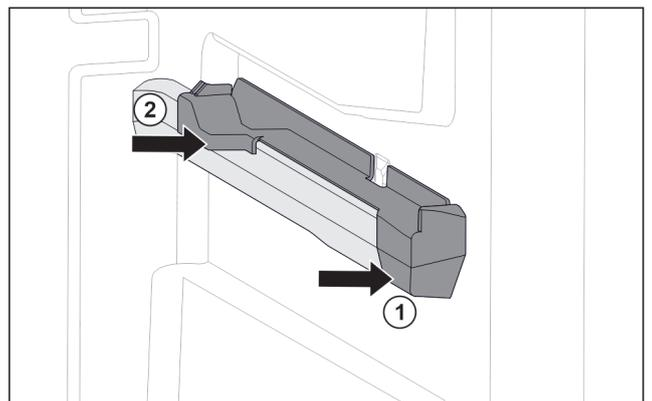

Fig. 42 Attachment on the right moulded rib
- ▶ Position attachment on moulded rib at the front. Fig. 42 (1)
- ▶ Press on attachment at the back. Fig. 42 (2)